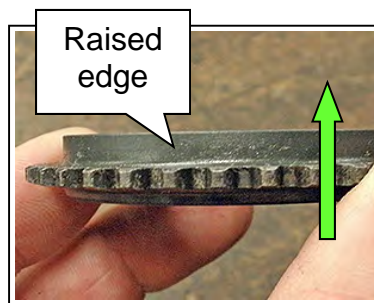

Figure 167
- Make sure the raised edge (wider edge) on the drive sprocket is facing up (Figure 167).